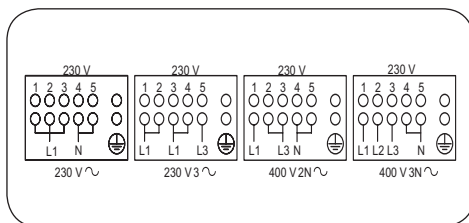

fig.9
- You will also find this diagram affixed to the back of the cooker.(fig.9) according to the type of connection you want.